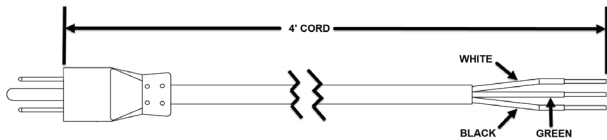

Figure 4-3
- Remove 4X screws on junction box cover inside the tower. Retrieve 4' temporary power cord from the parts kit. Route stripped end of wire into the junction box. *See Figure 4-3.*